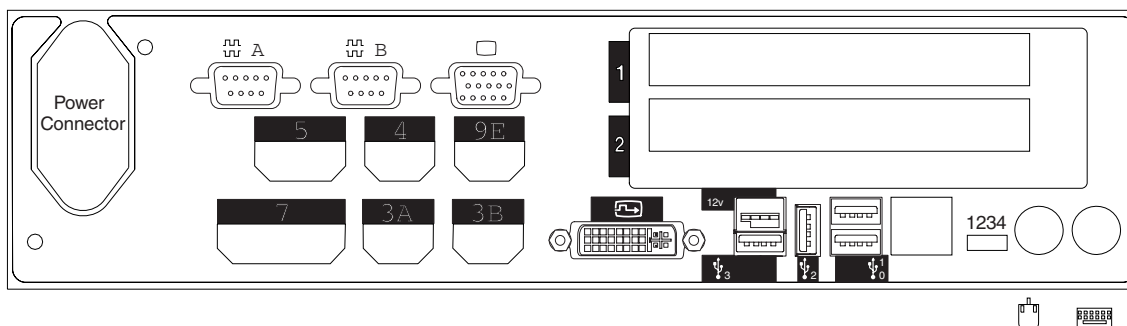

Figure 115. Rear of 4694-206 Controller/Terminal
8. Mark an X on Figure 115 to indicate the sockets in which POS devices are connected.